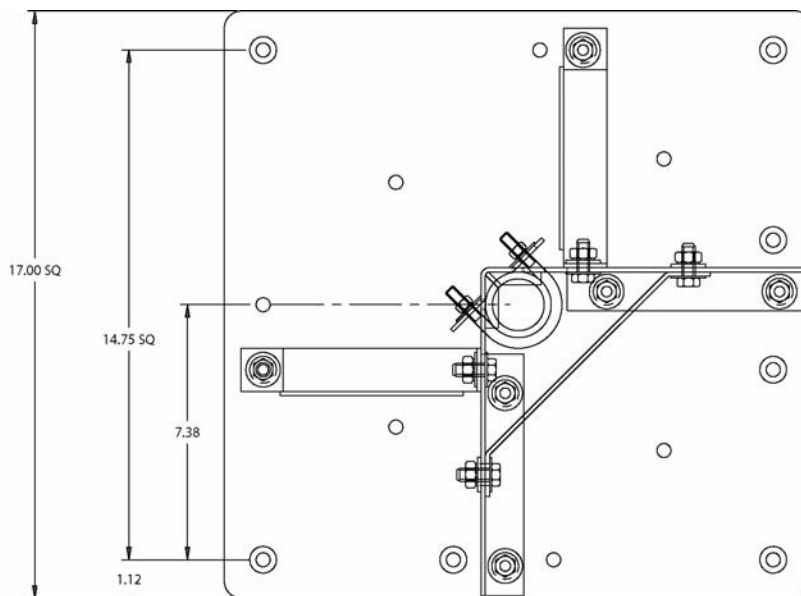

Figure 2
3. Attach the mounting plate to the roof surface using a minimum of six (6) holes with hardware appropriate for the surface. Refer to Figure 2 for dimensions. Use the doubler plate if the roof cannot support the screws. Hardware for this step must be provided by the installer.
5. Place the roof mount neck in the corner of the pipe support and secure with the two (2) U bolts, lock washers and flat washers provided. If desired, to prevent the roof mount from spinning, drill two 0.209 in. diameter holes in tubing and insert the set screws provided into the holes near the bottom of the neck.